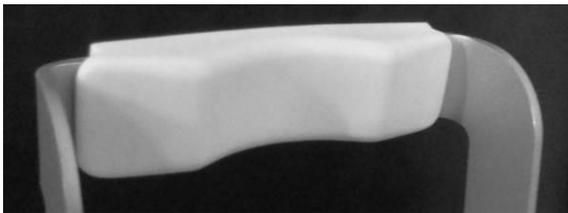
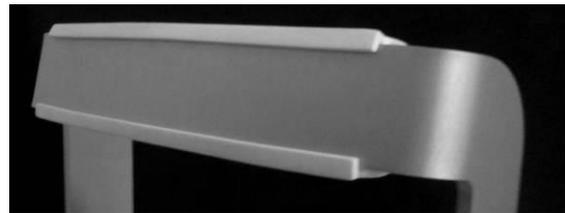

Fig. 7 – Forehead rest patient side
Fig. 8 – Forehead rest rear side
- attach the silicone forehead-rest (included in the tool box) on the head-rest frame as shown in the pictures below (Fig. 7 and Fig. 8) **[available for 2013 Edition only]**;